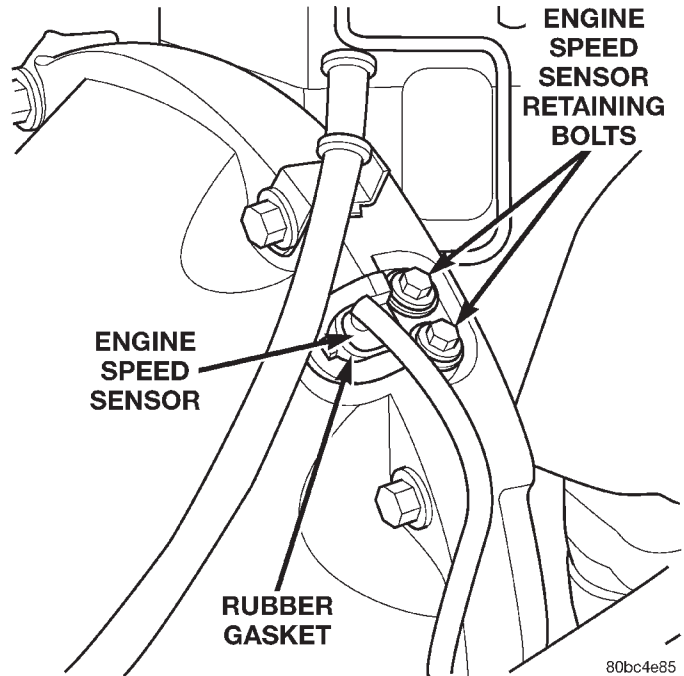

Fig. 21 Engine Speed Sensor
(11) Remove the exhaust manifold / turbocharger heatshield retaining bolts.
(12) Position the coolant line assembly out of the way and remove the heatshield from the vehicle.
(13) Working behind the exhaust manifold, disconnect the engine speed sensor electrical connector (Fig. 21).
(14) Remove the (2) engine speed sensor retaining bolts (Fig. 21).
(15) Remove the engine speed sensor from the vehicle.